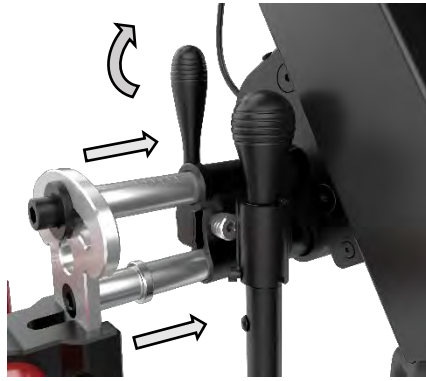

Figure 26. Assembling the Clamp Assembly to the Width Adjustment Assembly
- Insert the two Width Adjusting Rods into the two receiving holes. The QR Lock Levers must be down and loose to receive the Manual Clamp Mechanism. Once the width is established, the Lever can be locked upright (see Figure 26).